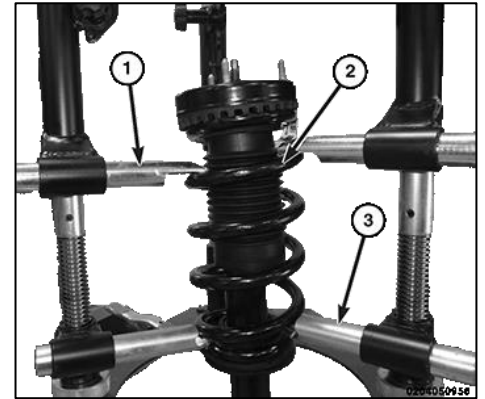

Figure 4
8. Position shock assembly coil spring (2) on hooks (1 , 3) of the compressor following manufacturer's instructions. Install clamp securing shock to the upper and lower spring coil. To ease installation, rotate shock as necessary positioning shock in compressor so that upper spring coil ends (step in Upper mount) at straight outward position from compressor. <Figure 4>
9. Compress coil spring (2) until all spring tension is removed from upper mount. <Figure 4>